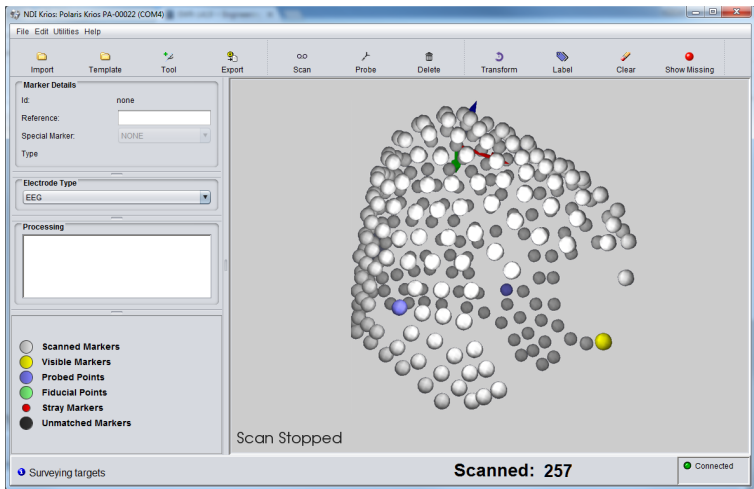

Figure 3-9 Partially Labelled Point Cloud
1. Select a marker in the point cloud. The selected marker turns yellow. See Figure 3-9.